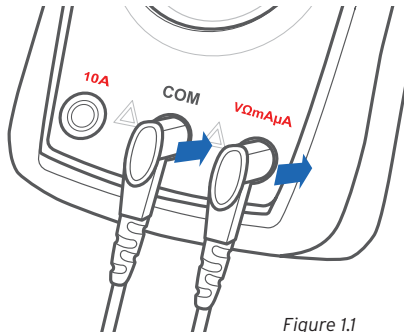

Figure 1.1
1. Insert the **black lead** into the **COM** terminal, and the **red test lead** in to the **V Ω mA μ A** terminal. [Figure 1.1]